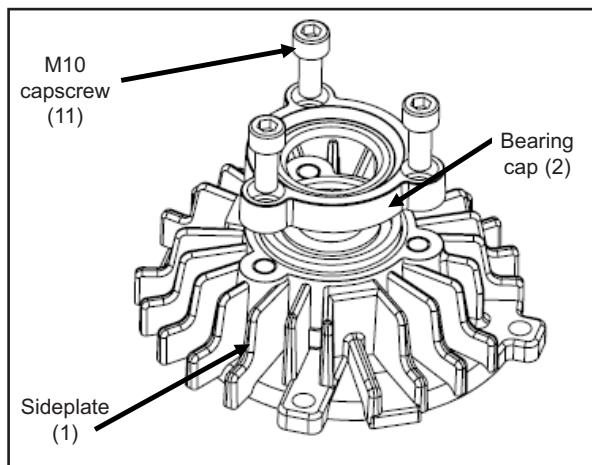

Figure 23
- Install a new bearing cap O-ring, plus any shims, and attach the bearing cap to the sideplate with three M10 capscrews (11). Tighten the capscrews to 26 lbs ft (35 N.m) ; See figure 23.